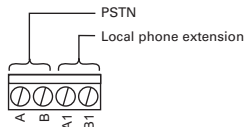

Figure 1: Connecting the module
2. Connect the module (Figure 1). Connect only to circuits designated as Telecommunications Network Voltage (TNV) in accordance with safety standard EN60950.